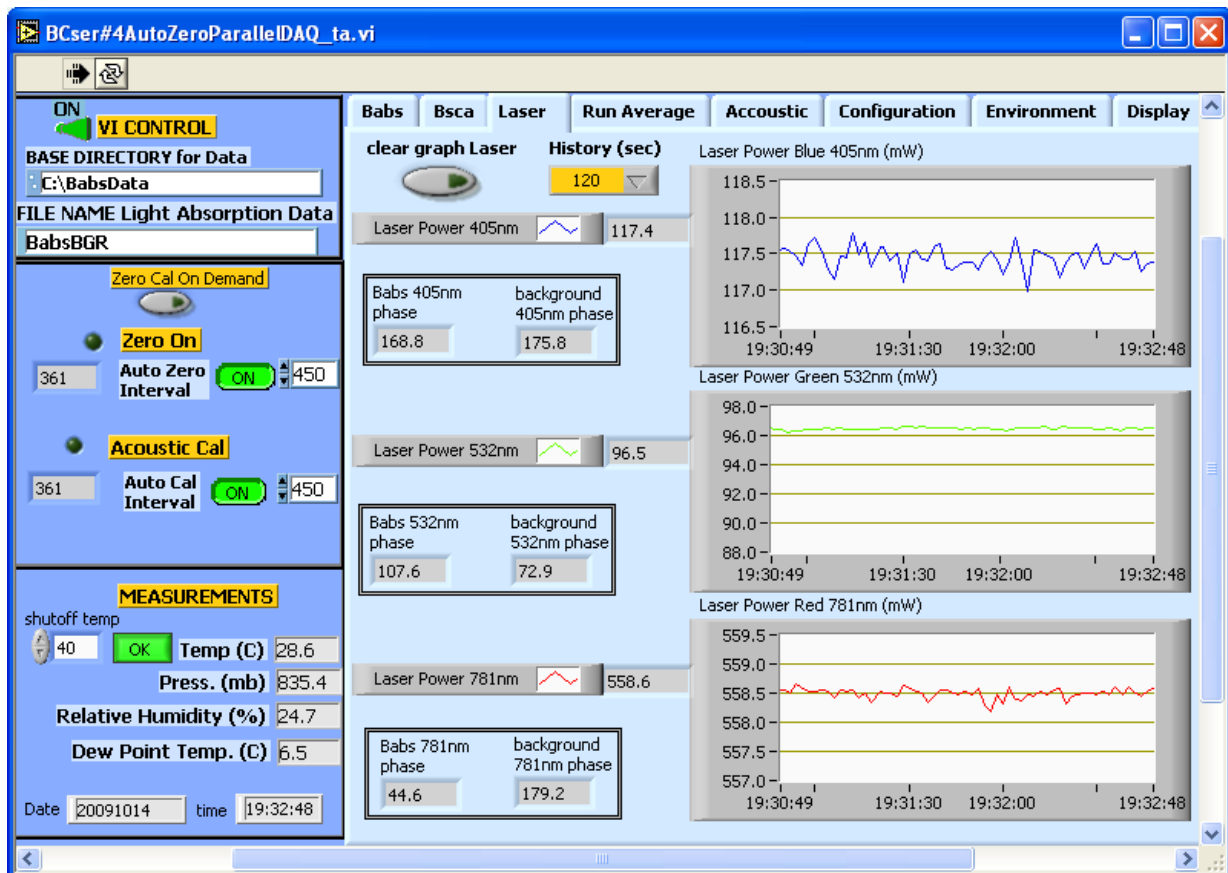

Figure 15: Laser Tab
The Laser tab (Figure 15) monitors laser power for the PASS-3's three lasers.
- Laser Power in mW (117.4 for the 405-nm laser in Figure 15)